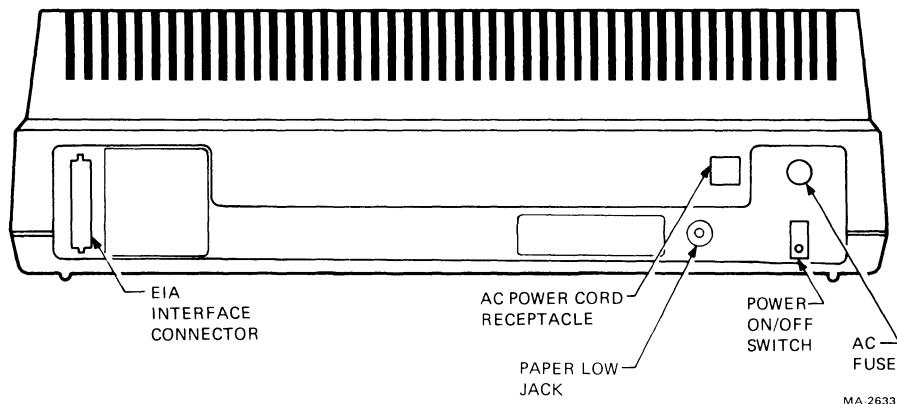

Figure 2-11 LA34, Rear View
1. Connect interface cable to the interface connector on rear of terminal (Figure 2-11).
2. Plug the ac power cord into the ac power receptacle on the rear of the printer (Figure 2-11). Then plug the ac power cord into a nonswitched, three-prong, grounded wall receptacle.
1. While holding the SET-UP key down, set the power ON/OFF switch to ON (Figure 2-11). Note that the SET-UP indicator remains on for up to nine seconds. If the conditions in the above note do not apply, simply set the power ON/OFF switch to ON.